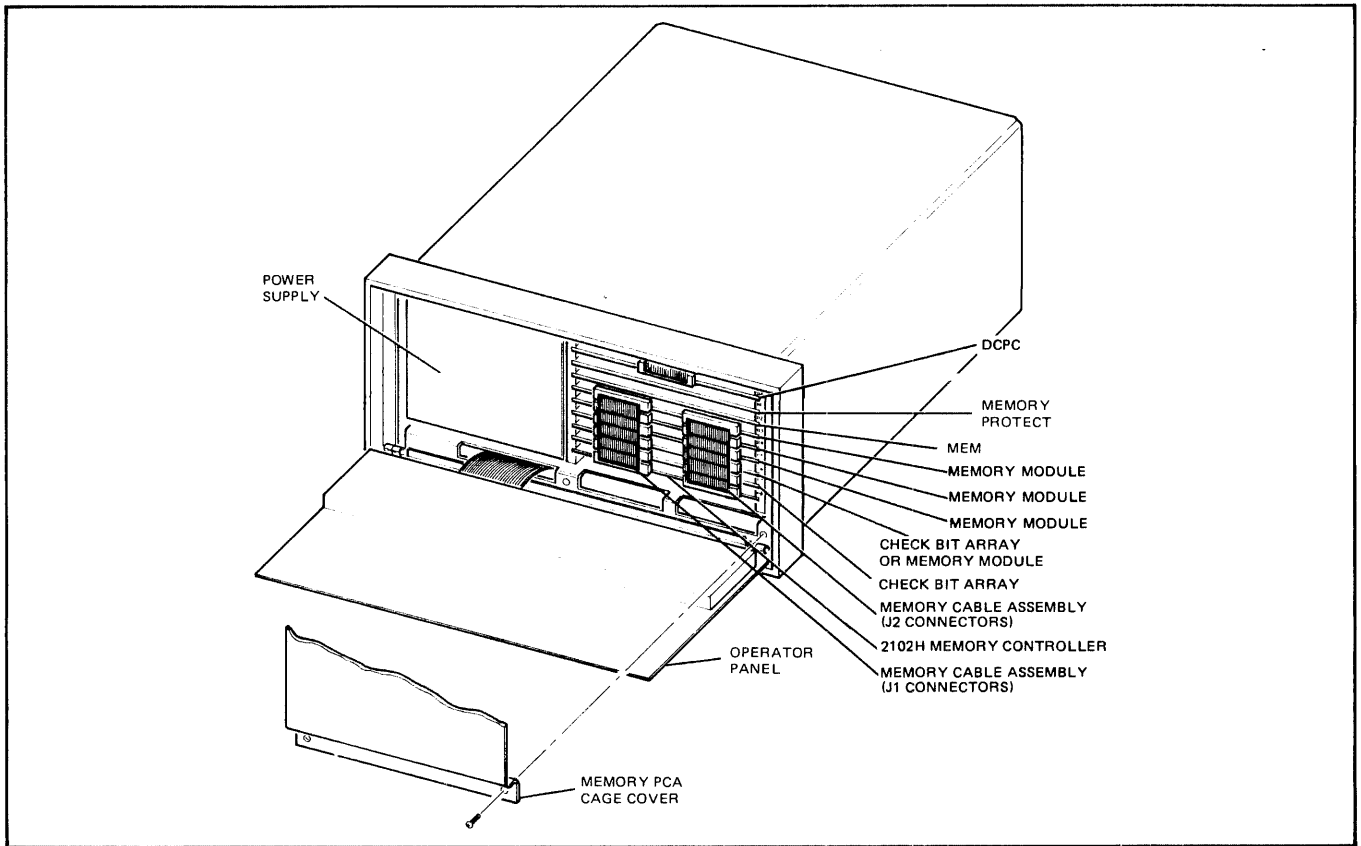

Figure 4-1. Fault Control Memory System Installation Details
- Lower the operator panel and remove memory PCA cage cover and remove memory cable assemblies if installed (see figure 4-1).
- Install the controller in the bottom memory slot with the component side up (see figure 4-1).
- g. Install Check Bit Arrays with component sides up in the computer memory slots indicated in figure 4-1 and table 4-3.
- j. Install memory modules in the computer or memory extender with component sides up as indicated in figure 4-1 and table 4-3.